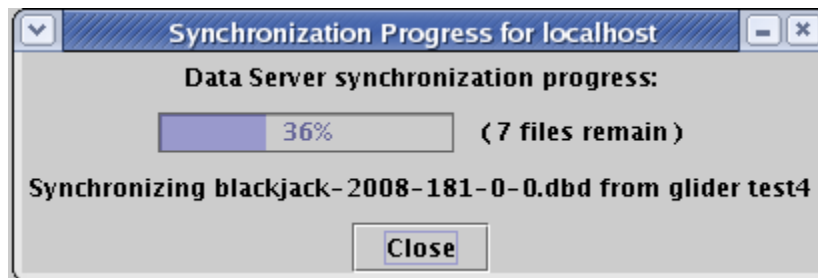

Figure 8-9. Synchronization Progress Dialog
5. After an initial pause, a progress dialog (similar to that shown in Figure 8-9) will appear. The dialog reports on the total number of glider data files currently being *synchronized* (i.e. parsed and stored) by Data Server, including those in the original 'Select files to transfer' dialog. Note that glider data files are never removed from Dock Server during synchronization, and closing the progress dialog does not terminate synchronization.